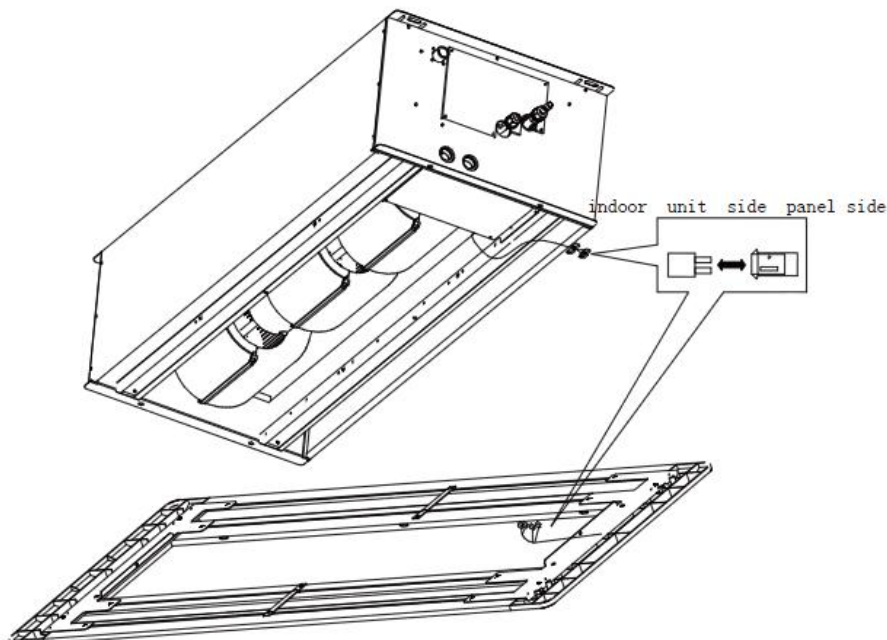

Fig. 4.4.3
- (3) Connect the decoration panel terminals (Female) to body terminals (male) as shown in fig.4.4.3.